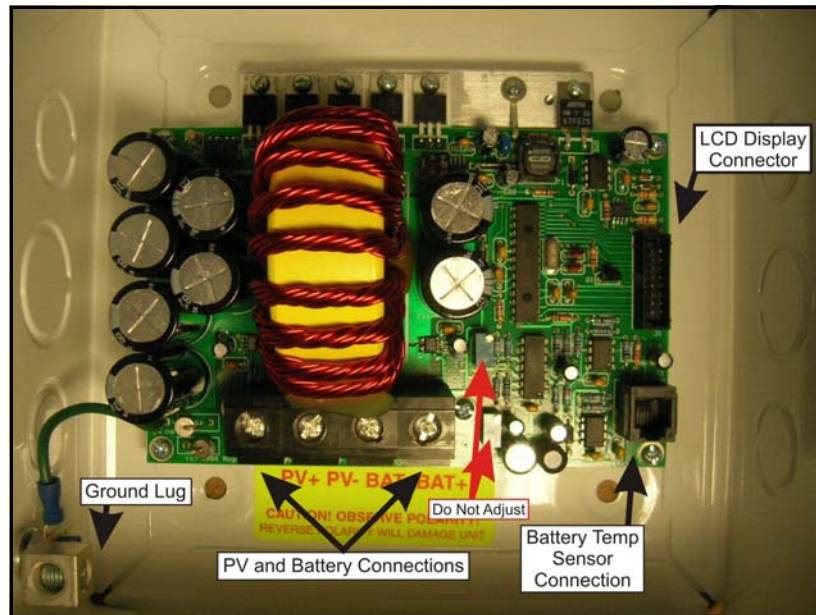

Figure 8.2.1. Wiring connections inside of the MPT-3024.
*With all external disconnects in the "OFF" position, securely fasten each wire in its proper location on the terminal block and tighten screws. See Figures 8.2.1 and 8.2.2 for assistance with correct wiring. Note that the PV array must have its negative wire connected directly to the **PV-** screw on the terminal block. Using one common negative wire for both **PV-** and **BAT-** connections may cause the MPT-3024 to make erroneous current measurements.*
For code compliance, basic electrical safety, and enhanced EMI shielding, one copper ground wire *must* be securely fastened to the enclosure (at the lug provided, shown in Figure 8.2.1), with the other end connected to the grounded bus bar within your load center.
Always ensure that each MPT-3024 has its own dedicated array: do not connect the **PV** terminals of multiple controllers in parallel. The **BAT** terminals should be connected in parallel when using multiple charge controllers (always observe proper polarity and ensure that **+** and **-** terminals are never connected together). See the diagram in Figure 8.2.1.